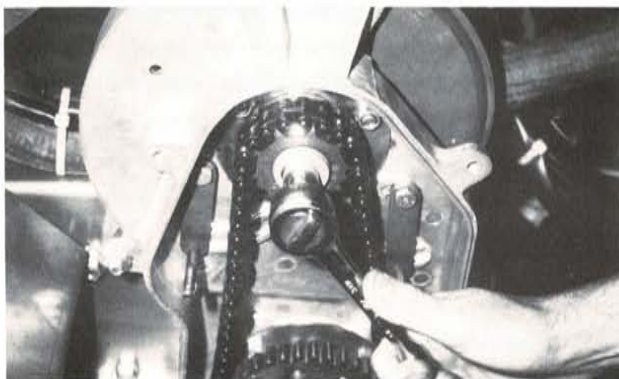

Fig. 12
8. Remove capscrew and washers that secure top sprocket (Fig. 12).